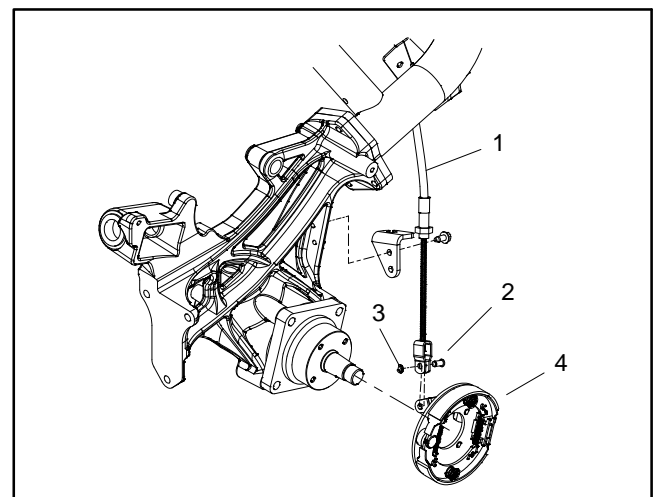

Figure 52
2. Loosen, but do not remove, lug nuts (item 9) and lock nut (item 7). Loosen lock nut at least two (2) turns.
5. Remove e-ring and clevis pin that secure brake cable clevis to brake actuator lever (Fig. 52). Position brake cable clevis away from actuator lever.
1. Position hydraulic wheel motor to the frame with motor ports facing up. Place brake lever tab (item 10) to frame with slot toward rear of machine. Secure motor and brake lever tab to the frame with four (4) cap screws.
5. Position brake assembly to wheel motor and align brake actuator lever with slot in brake lever tab. Secure brake assembly to wheel motor with four (4) cap screws.
8. Secure brake cable clevis to brake actuator lever with clevis pin and e-ring (Fig. 52).
9. Install front wheel to machine and secure with four (4) lug nuts.